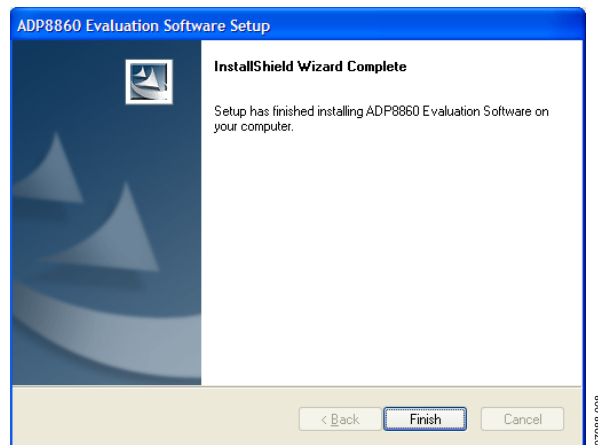

Figure 7. InstallShield Wizard Complete
- Click **Finish** to complete the installation (see Figure 7).